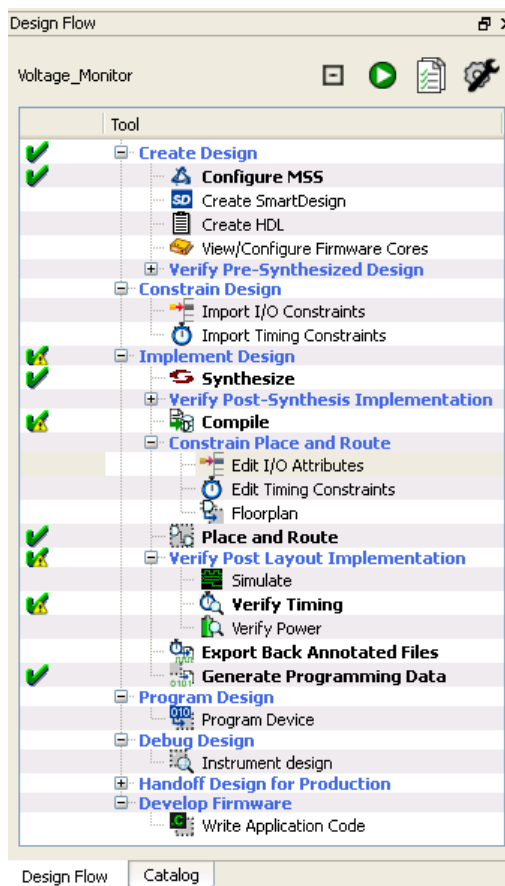

Figure 63 · Design Flow Window After Building The Project
7. The **Design Flow** window looks similar to Figure 63 .